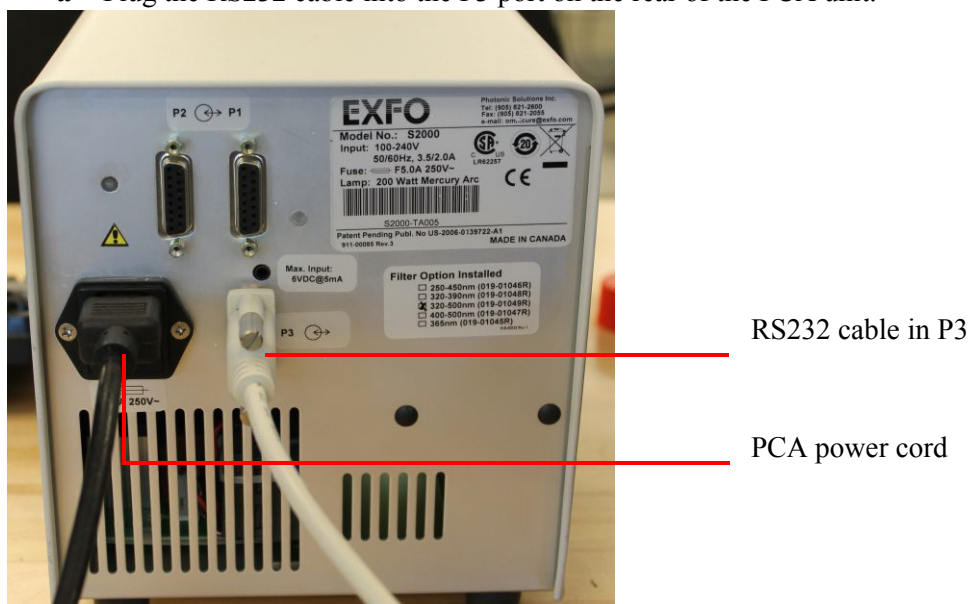

Figure 4 Back of PCA unit.
- 12** Plug in the PCA power cord to the back of the PCA unit (see Figure 4 above).